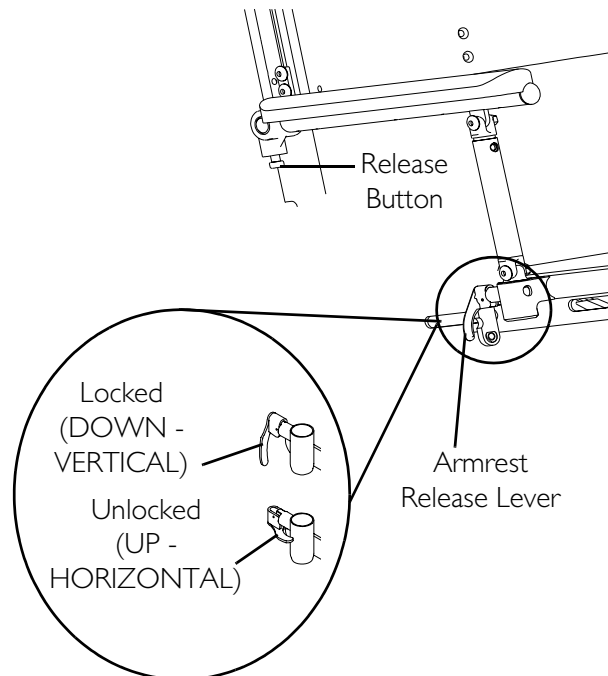

FIGURE 7.3 Removing/Installing Reclining Armrests
NOTE: For this procedure, refer to FIGURE 7.3.
1. Position the armrest on the seat frame as shown in FIGURE 7.3.